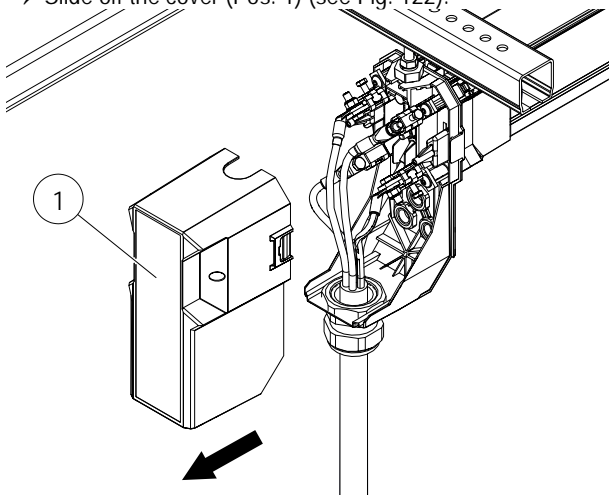

Fig. 122: Slide off cover (Pos. 1)
- Slide off the cover (Pos. 1) (see Fig. 122).